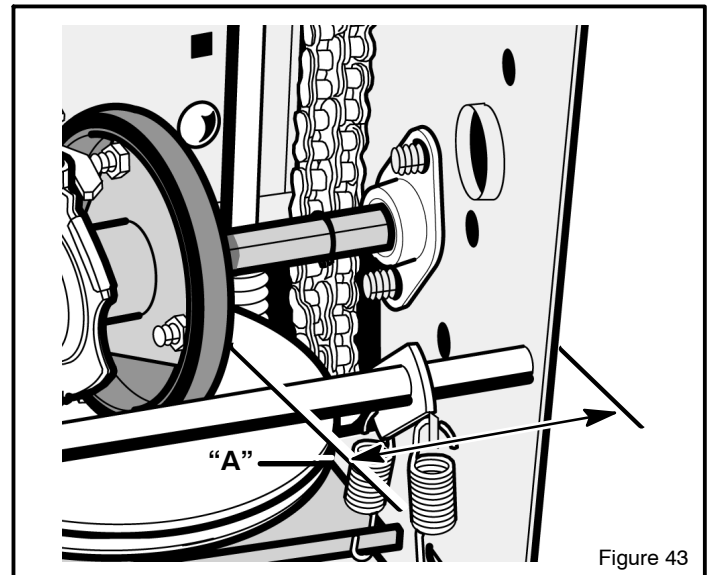

Figure 43
6. Note the position of the **friction wheel** (see Figure 43). The correct distance "A" from the right side of the **friction wheel** to the outside of the motorbox is as follows:
3. Move the **friction wheel** to the correct position (see Figure 43).